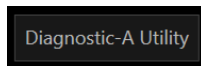

Fig. 8 - ‘Diagnostic-A Utility’ Button
- ④ **Diagnostic A-Utility:** To start the Diagnostic A-Scan application, select the ‘Diagnostic A-Utility’ button (Fig. 8).